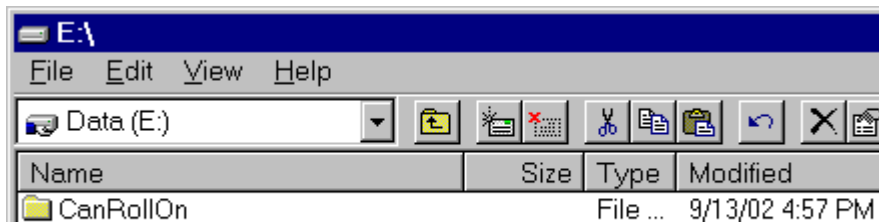

Fig. 7.2
- Find the destination of CANopen RollOn Configuration Tool in your PC. For demonstration purpose an example is illustrated in Fig. 7.2.